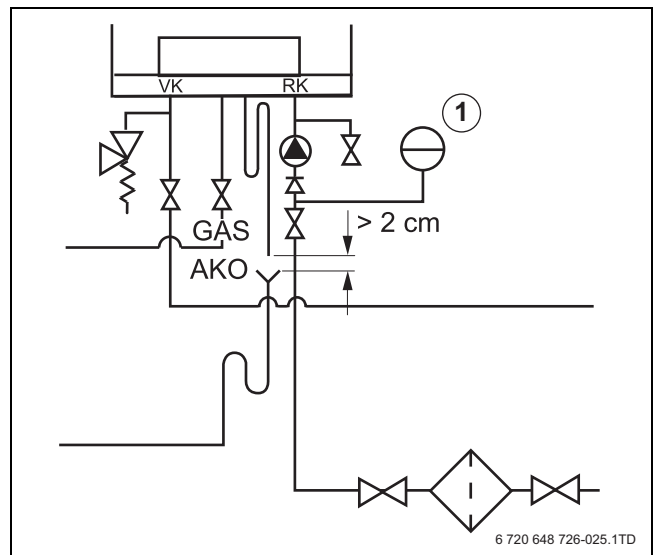

Fig. 25 Connecting the expansion vessel in a single-boiler system
► Connect the expansion tank to the boiler return (CHR). If a non-return valve is available: connect the expansion vessel to the CH-side of the non-return valve in the return circuit (→ fig. 25, [1]).